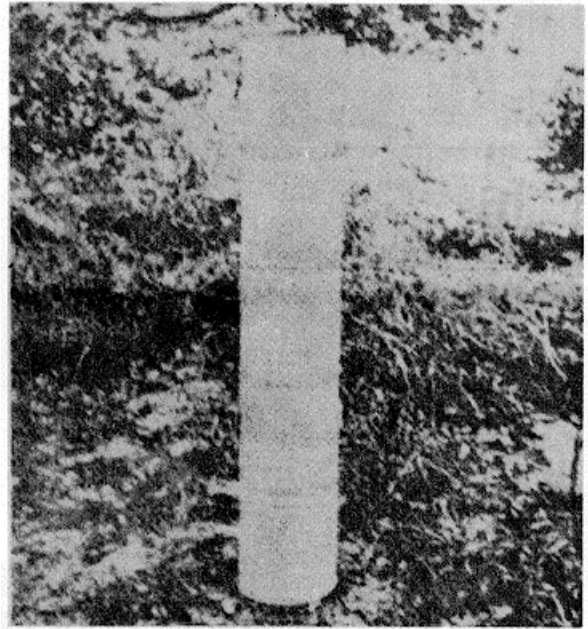
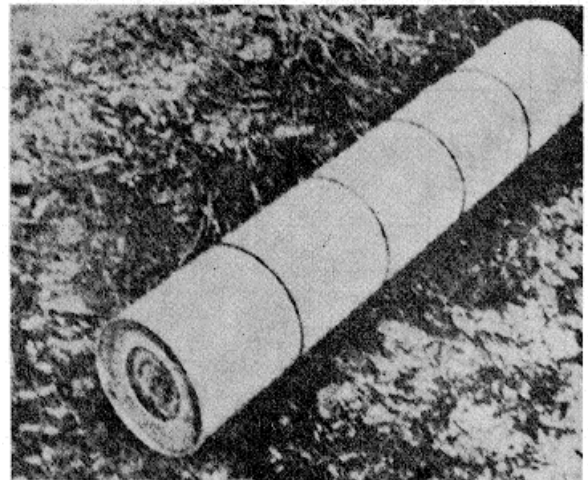

Figure 1. ABC-M5 smoke pots stacked vertically.
Figure 2. ABC-M5 smoke pots laid end to end.
c. *Chain Ignition.* A number of M1 or ABC-M5 smoke pots can be arranged to ignite in succession, thus providing smoke for a longer period than is possible using a single pot. To accomplish chain ignition, the pots can be placed in stacks (fig. 1) and the topmost pot in the stack ignited, or they can be laid on their sides (fig. 2) end to end and the pot with the exposed igniting device ignited. Prior to stacking, the outer covers must be removed from all pots so that the igniting devices are exposed. When M1 smoke pots are stacked vertically, supports must be provided for stability. The ABC-M5 smoke pot is especially designed for vertical stacking, and because the bottom of one pot fits snugly into the top of the one below it, no support is required. Whether pots are stacked vertically or laid on their sides, the heat generated by one burning pot in a series ignites the